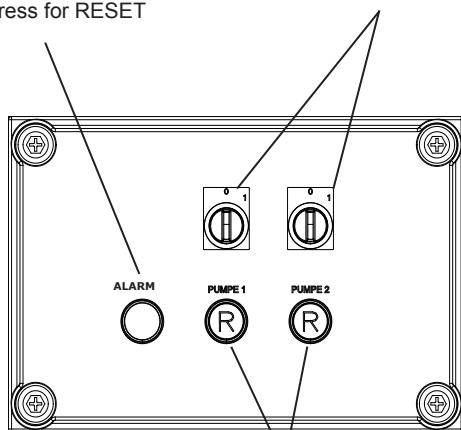

Fig. 2
Controls provide automatic start/stop and check whether water flow is sufficient, using two flow switches and one pressure switch. See Fig. 2
See Fig. 2. Alarm (Water pressure drop), flashing = wait. Alarm (Water pressure drop), constant light = STOP.
4. The thermal relay trips if the motor is overloaded. The thermal relay is RESET by pressing the button marker R. The motor protection switch will now permit a restart. See Fig. 2.